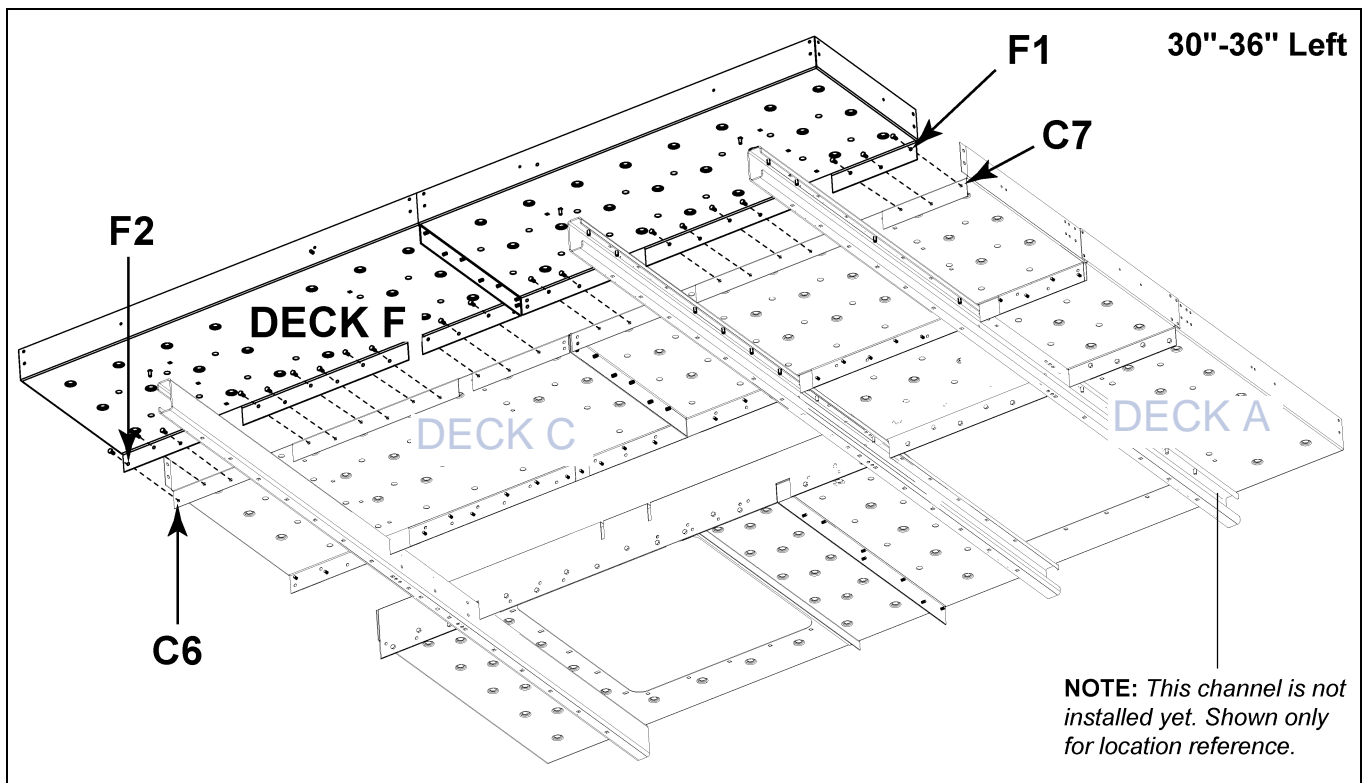

Figure 9M Deck F to Deck C
5. Orient Deck F flange outside of Deck C flange. (See Figure 9M on Page 72.)